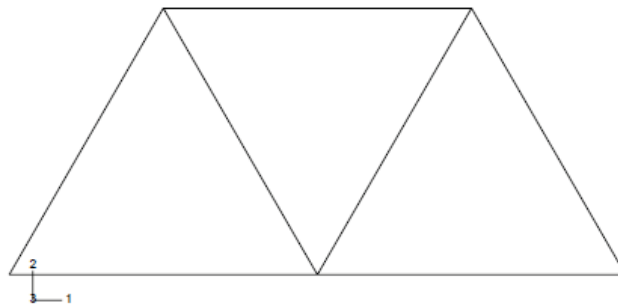

Figure 4-4 Frame geometry sketch.
11. Create geometry lines to define the frame. While you are adding construction geometry and moving the cursor around the sketch, ABAQUS/CAE displays preselection points (for example, at the intersections of new construction geometry and existing construction geometry) that allow you to align objects precisely. Using the **Create Lines: Connected** tool  located in the upper-right corner of the Sketcher toolbox, connect the points with geometry lines. In addition, remember to create the geometry lines representing the internal truss bracing. The final sketch is shown in Figure 4-4.